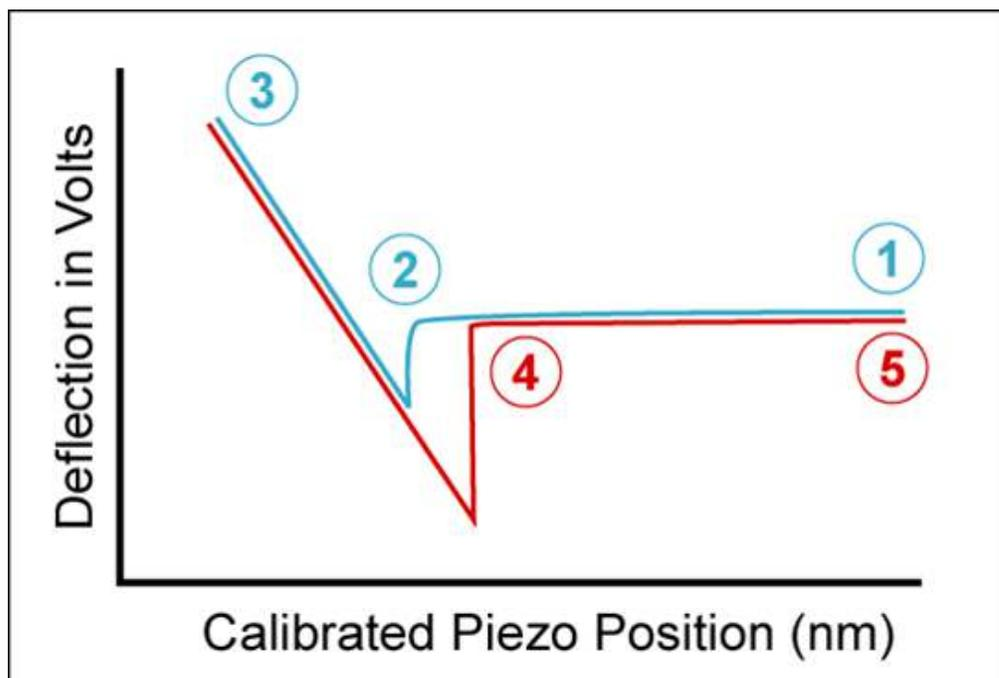

Figure 18.1.: Components of a Force Curve as the cantilever approaches and retracts from the sample surface
As seen in Figure 18.1 on page 229, the process usually begins with the tip approaching the surface with some ‘free air’ (non-contact) deflection value (1), makes contact with the surface (2), pushes into the sample for some period/load until it reaches a user-defined cantilever deflection or force, i.e., the trigger point (3), and then reverses direction as the cantilever retracts from the surface. The tip may remain attached to the surface until enough force/distance pulls it off the surface, which appears as adhesion (4), before returning to its rested “free air” (non-contact) deflection (5). Although a typical force curve only moves in the Z direction, you can also acquire a Force Map that is an array of force curves over a user-defined XY scan range.